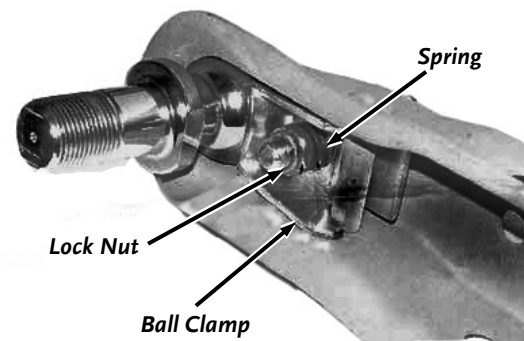

Figure 8
1. With the proper size Ball in the Socket of the Hitch Coupler, close the Latch of the Coupler completely (**Figure 8**). Verify that the Locking Trigger is properly engaged in its detent.